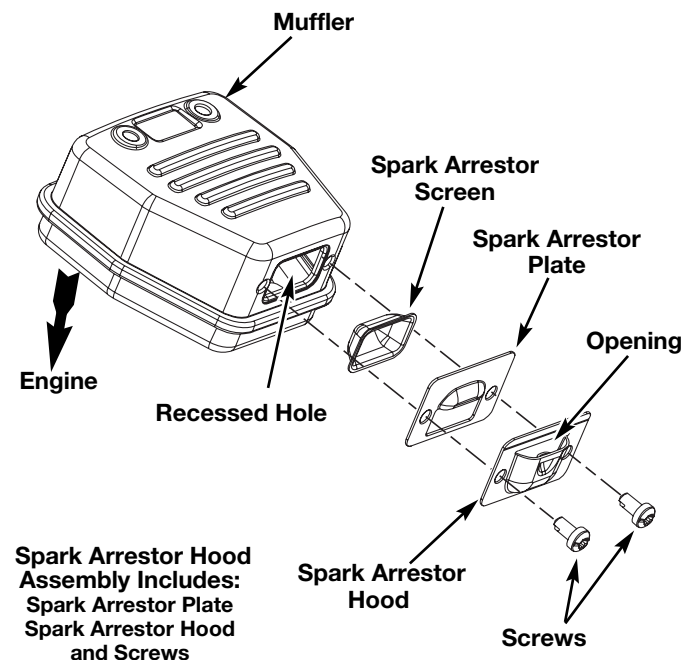

Fig. 22
2. Locate the muffler, but do not remove it. Find the two (2) screws on the bottom of the muffler (Fig. 22). These two screws hold the Spark Arrestor Hood Assembly and the spark arrestor screen to the bottom of the muffler. Remove the two (2) screws using either a torx #20 or flat blade screwdriver.
6. Place the spark arrestor plate on top of the spark arrestor with the “raised” side up and the opening facing towards the engine (Fig. 22).
7. Place the spark arrestor hood on top of the spark arrestor plate with the “raised” side up and the opening facing AWAY from the engine (Fig. 22). Verify that the exhaust will be directed AWAY from the engine.